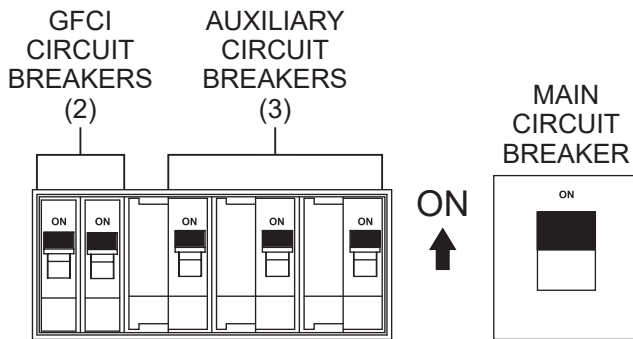

Figure 12. Main, Auxiliary, And GFCI Circuit Breakers (ON)
12. Place the **main, auxiliary, and GFCI** circuit breakers in the **ON** position (Figure 12).